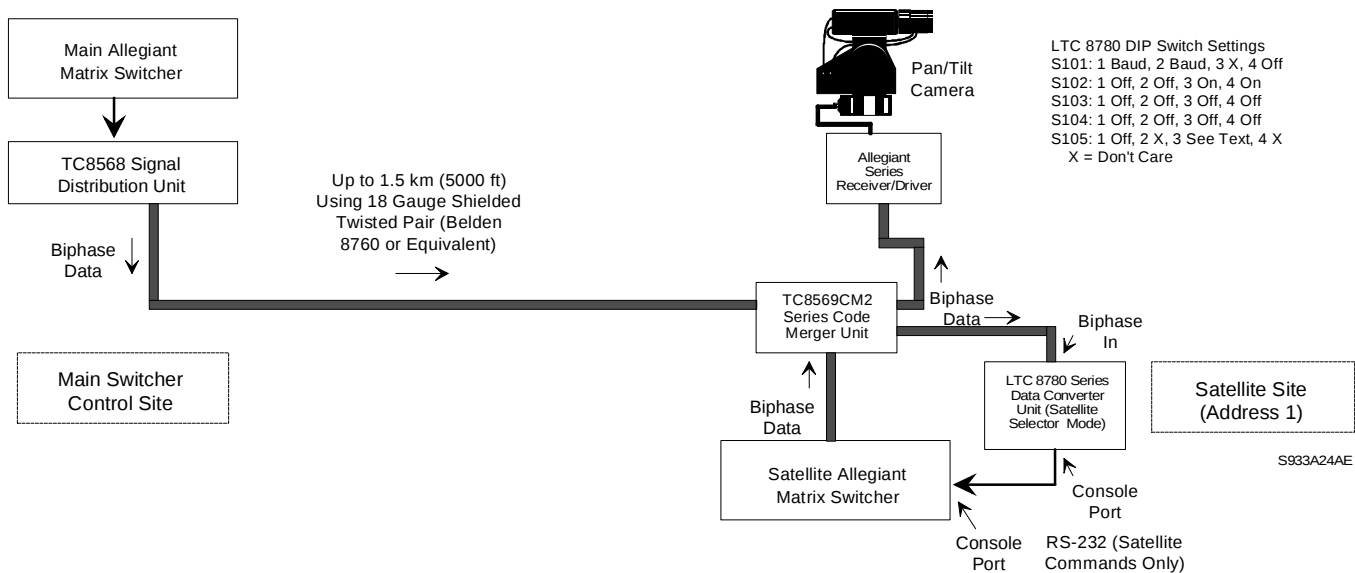

Figure 7: LTC 8780 Series Configured as Satellite Selector Unit
4. SATELLITE SELECTOR UNIT CONFIGURATION (**Figure 7**)